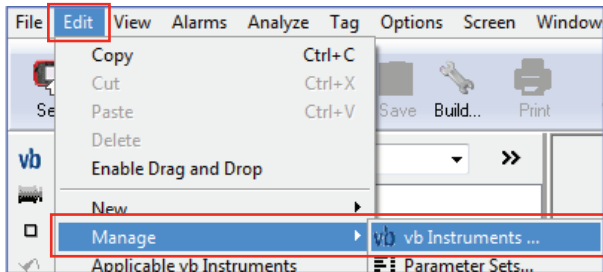

FIGURE 1: Opening the Manage Instruments dialog from the Edit menu.
1. From the Edit menu, select **Manage** and then **vb Instruments** (Figure 1).